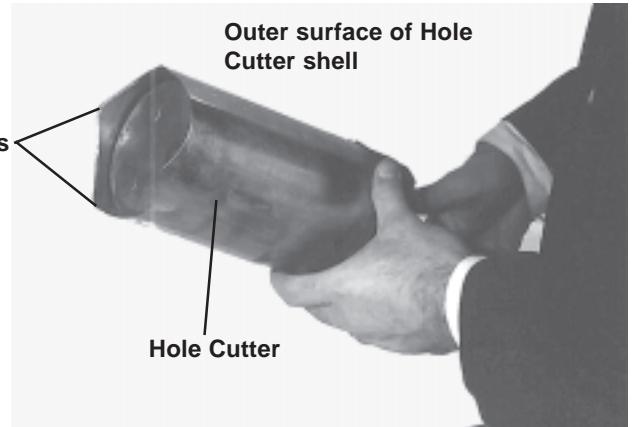

FIG.2
1. Clean inside and outside surface of the hole cutter shell. (See FIG. 2)
2. Examine the tips on the hole cutter shell, If any tips are bent, they must be realigned straight with the outside diameter of the shell. (See FIG. 2)